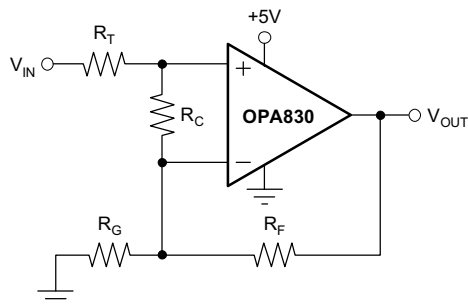

Figure 59. Compensated Non-Inverting Amplifier
For the non-inverting amplifier with reduced peaking design, the design parameters needed in Figure 59 with noise gain = 2 are listed in Table 1.
Frequency response in a gain of +2 may be modified to achieve exceptional flatness simply by increasing the noise gain to 3. One way to do this, without affecting the +2 signal gain, is to add a 2.55k Ω resistor across the two inputs, as shown in Figure 59. A similar technique may be used to reduce peaking in unity-gain (voltage follower) applications. For example, by using a 750 Ω feedback resistor along with a 750 Ω resistor across the two op amp inputs, the voltage follower response will be similar to the gain of +2 response of . Further reducing the value of the resistor across the op amp inputs will further dampen the frequency response due to increased noise gain. The OPA830 exhibits minimal bandwidth reduction going to single-supply (+5V) operation as compared with $\pm 5V$. This minimal reduction is because the internal bias control circuitry retains nearly constant quiescent current as the total supply voltage between the supply terminals is changed.
The criterion for setting this R_S resistor is a maximum bandwidth, flat frequency response at the load. For a gain of +2, the frequency response at the output terminal is already slightly peaked without the capacitive load, requiring relatively high values of R_S to flatten the response at the load. Increasing the noise gain will also reduce the peaking (see Figure 59).
Figure 59 shows a non-inverting amplifier that reduces peaking at low gains. The resistor R_C compensates the OPA830 to have higher Noise Gain (NG), which reduces the AC response peaking (typically 5dB at $G = +1$ without R_C) without changing the DC gain. V_{IN} needs to be a low impedance source, such as an op amp. The resistor values are low to reduce noise. Using both R_T and R_F helps minimize the impact of parasitic impedances.